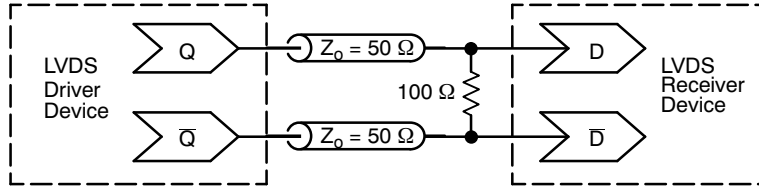

Figure 13. Typical LVDS Termination for Output Driver and Device Evaluation
5. LVDS outputs require 100 Ω receiver termination resistor between differential pair. See Figure 13.
12. Measured by forcing $V_{INPPmin}$ with 50% duty cycle clock source and $V_{CC} - 1400 \text{ mV}$ offset. All loading with an external $R_L = 100 \Omega$. Input edge rates 150 ps (20%–80%). See Figure 13.